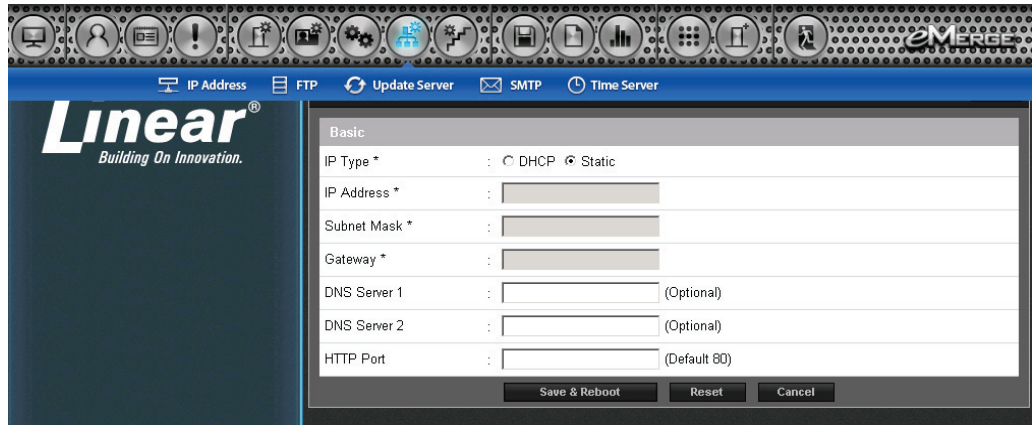

Figure 7.3. Network Settings Page
- Browse to the Network Configuration (IP address) page as shown in Figure 7.3. Enter the static IP address, Subnet Mask, Gateway and DNS server so that it matches the requirements of the local network. (Refer to the User Manual for complete programming information.)